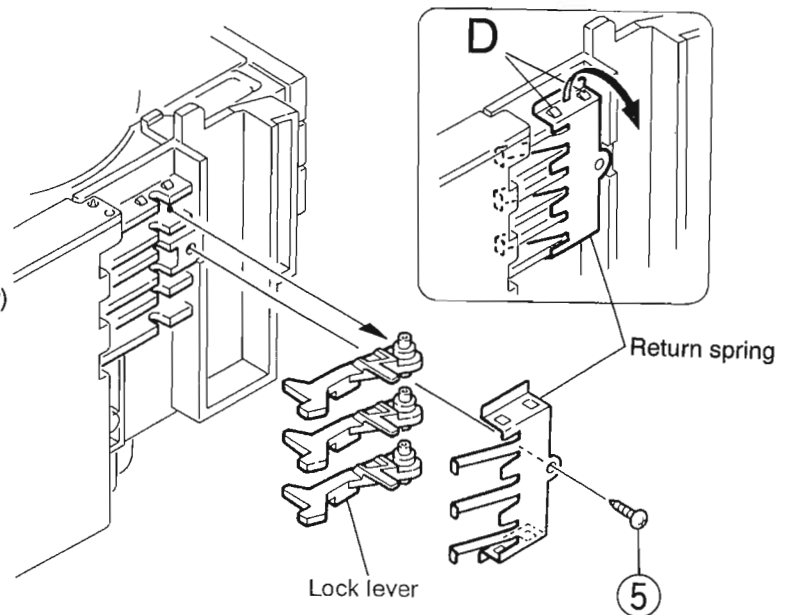

Fig.3-38
8. From the left side face of the chassis assembly,remove the one screw ⑤ retaining both of the return spring and lock lever. (See Fig.3-38).
9. By removing the pawl at the section "D" fixing the return spring,dismount the return spring (See Fig.3-38).
10. Remove the three lock levers (See Fig.3-38).